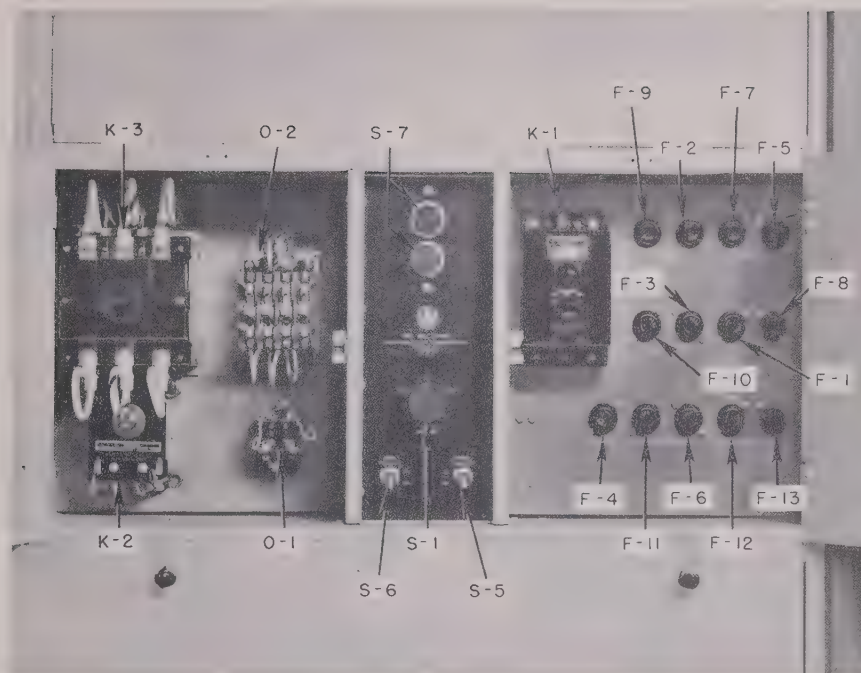

Figure 15. Rectifier Power Unit Model 36D,
i. Fuse, Relay, and Control Panels (fig. 15). The fuse, relay, and control panels are mounted between the first and second shelves. The control panel is in the center, and mounted on it are five controls used for normal operation. The fuse panel is to the right of the control panel and has 13 fuses and the circuit breaker mounted on it. Mounted on the relay panel, which is at the left of the control panel, are three relays and the h-v primary contactor.